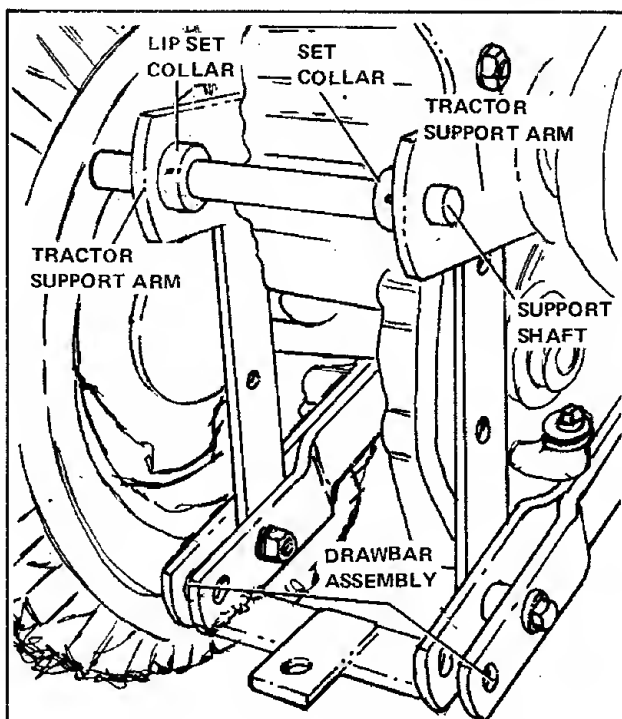

Figure 12. Installing Support Shaft
1. For tractors without a rear lift kit installed on the tractor, a support shaft and two collars are provided for installing the vacuum collector on the tractor. (On tractors with a rear lift kit installed, proceed to step 2.) On tractors without a rear lift kit, place the two set collars provided on the support shaft, the larger collar with a lip going on the left side with the lip facing outward. Position the support shaft in the rear hitch frame plates on the tractor so that the lip of the larger collar fits inside the left rear hitch frame plate and the end of the shaft is flush with the outside edge of the right hitch frame plate. Tighten the set collars so that there is no play from side to side in the support shaft. (See figure 12.)